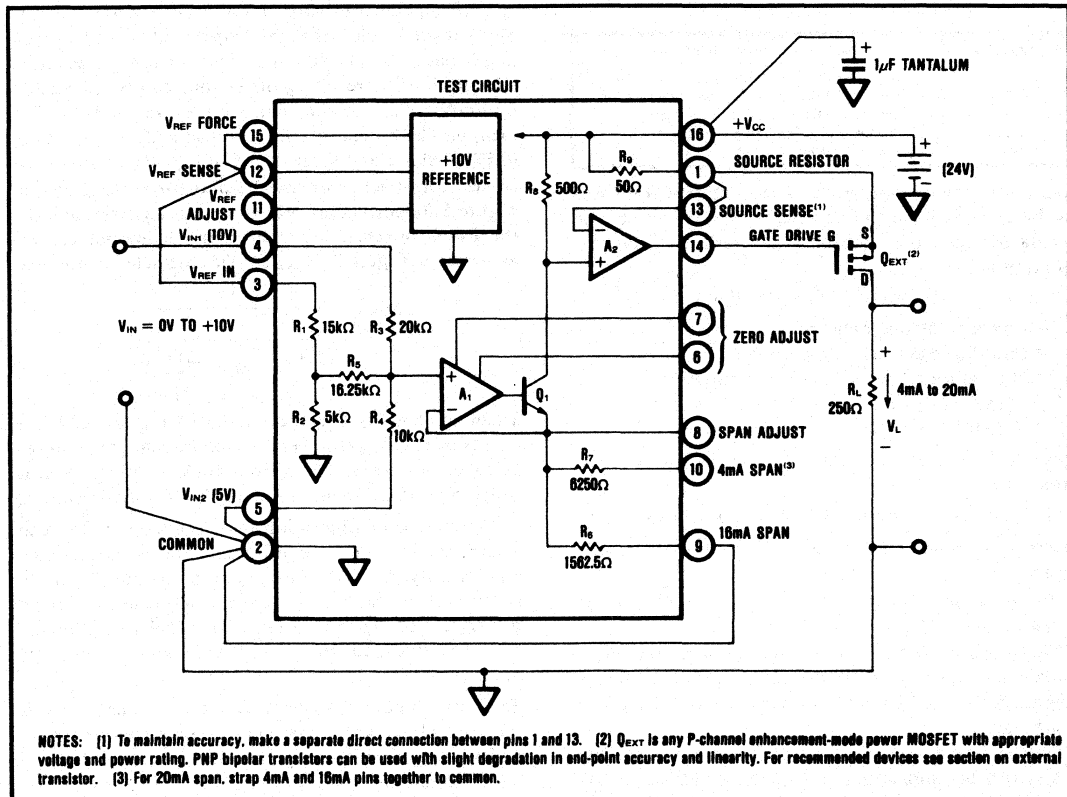

FIGURE 1. Block Diagram of the XTR110 in Basic Connection: 0V to +10V in, 4mA to 20mA out.
A block diagram of the XTR110 is shown in Figure 1. The circuit contains four main functional blocks: (1) a precision resistor divider network ( $R_1$ - $R_3$ ), (2) a voltage-to-current converter ( $A_1$ ,  $Q_1$ ,  $R_6$ ,  $R_7$ ), (3) a current-to-current converter ( $A_2$ ,  $R_8$ ,  $R_9$ ,  $Q_{EXT}$ ), and (4) a precision +10V reference.
The basic connection of the XTR110 is the standard 0V to +10V input; 4mA to 20mA output configuration is shown in Figure 1.
Connections to the MOSFET are gate drive (pin 14) and source resistor (pin 1). To eliminate errors due to resistance in the connection between pin 1 and the source of the external transistor, connect pin 13 directly to pin 1 as shown in Figure 1.